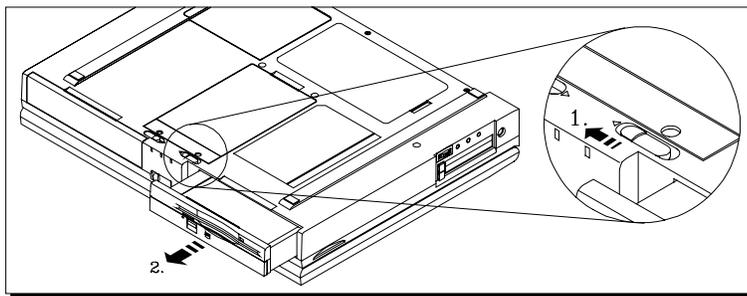
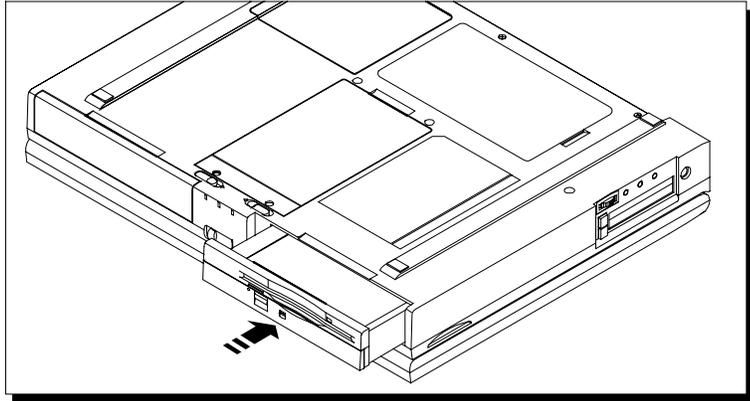

Figure 6-2: Removing the Combo Module from Bay 2
Figure 6-3: Installing the Combo Module into Bay 2
3. Locate the Module Lock/Release latch on the bottom of the Notebook. Please refer to **Figure 6-2**.
4. Slide the Module Lock/Release latch in the direction of the arrow (1) as shown in **Figure 6-2**. This will unlock the Combo module from its original position.
5. Slide the module out of its housing (2).
6. Install the desired module. Please refer to **Figure 6-3** and the instructions that follow. The Lock/Release latch is spring-loaded and will snap back into place.